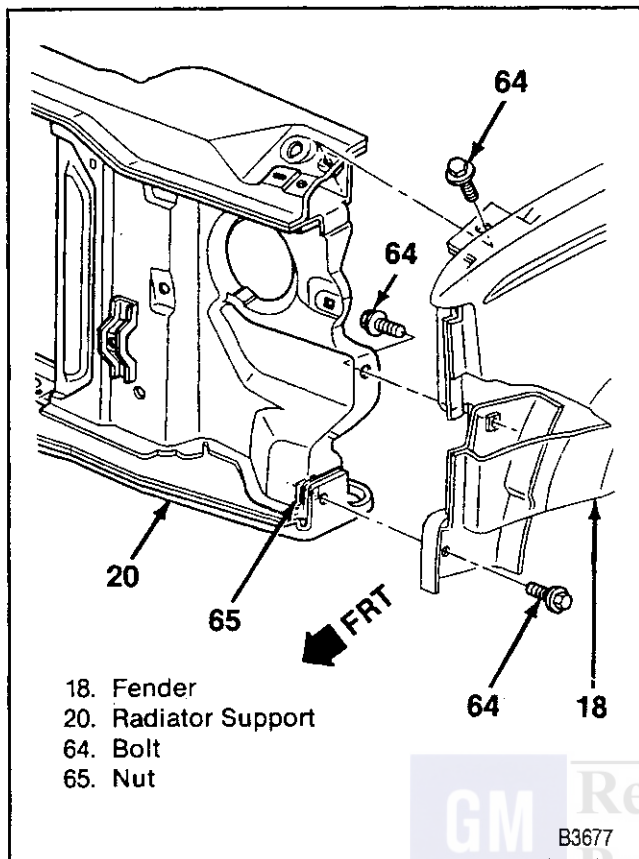

Figure 21—Fender to Radiator Support Attachment
15. Fender to the radiator support bolts (figure 21).